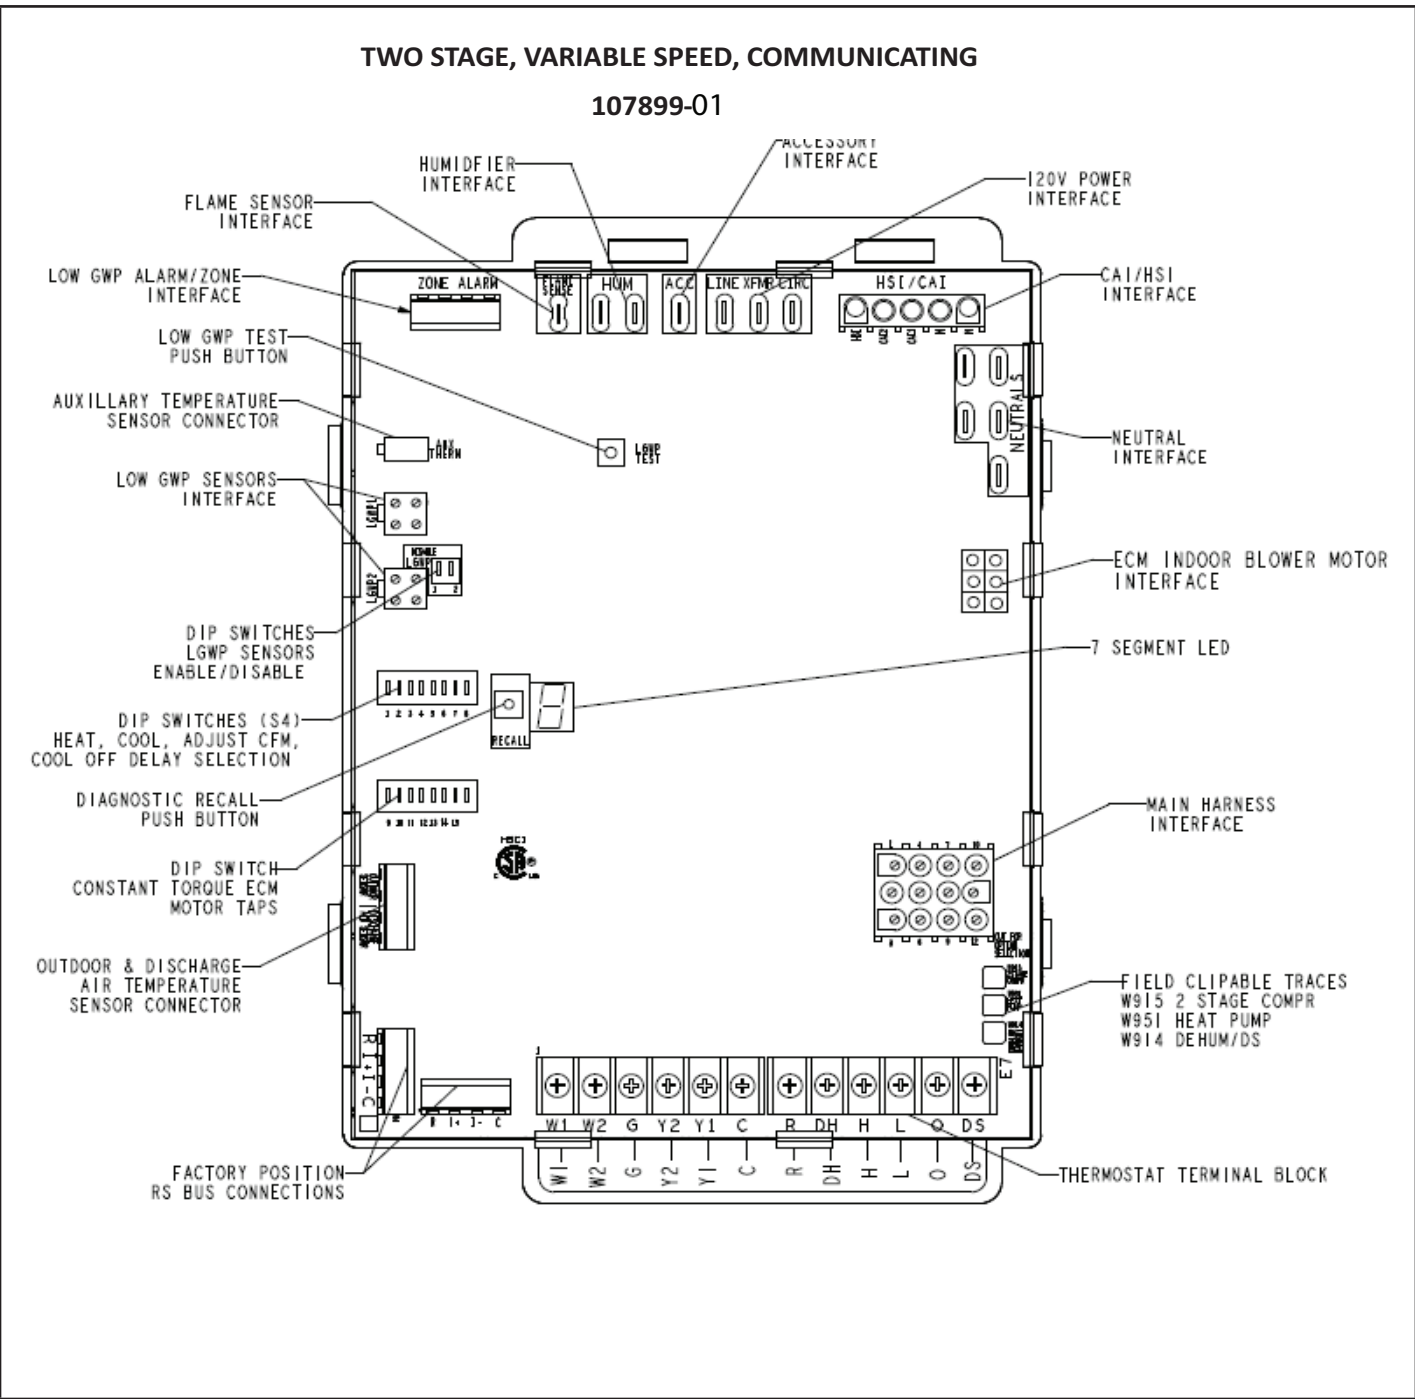

FIGURE 33
- 7 - One line voltage "ACC" 1/4" spade terminal is provided on the furnace integrated control. Any electronic air cleaner or other accessory rated up to one amp can be connected to this terminal with the neutral leg of the circuit being connected to the one of the provided neutral terminals. See FIGURE 33 for control configuration. This terminal is energized when the indoor blower is operating.
Diagnostic LED (FIGURE 33)
Diagnostic Push Button (FIGURE 33)